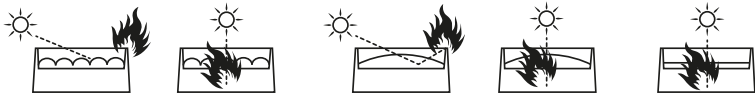

Figure 1.
**WARNING!** Position or shade the bar so that the front lens will not be exposed to sunlight or any other strong light source from any angle - even for a few seconds. See **Figure 1**. The LED PAR lens can focused the sun's rays, creating a potential fire hazard and causing damage.